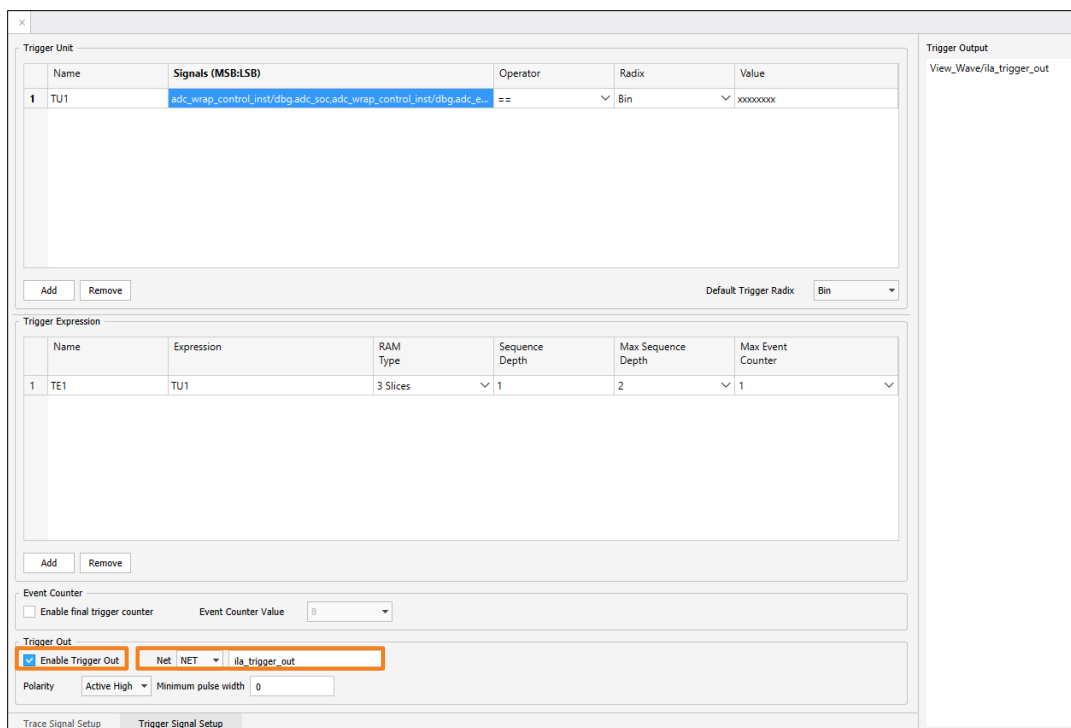
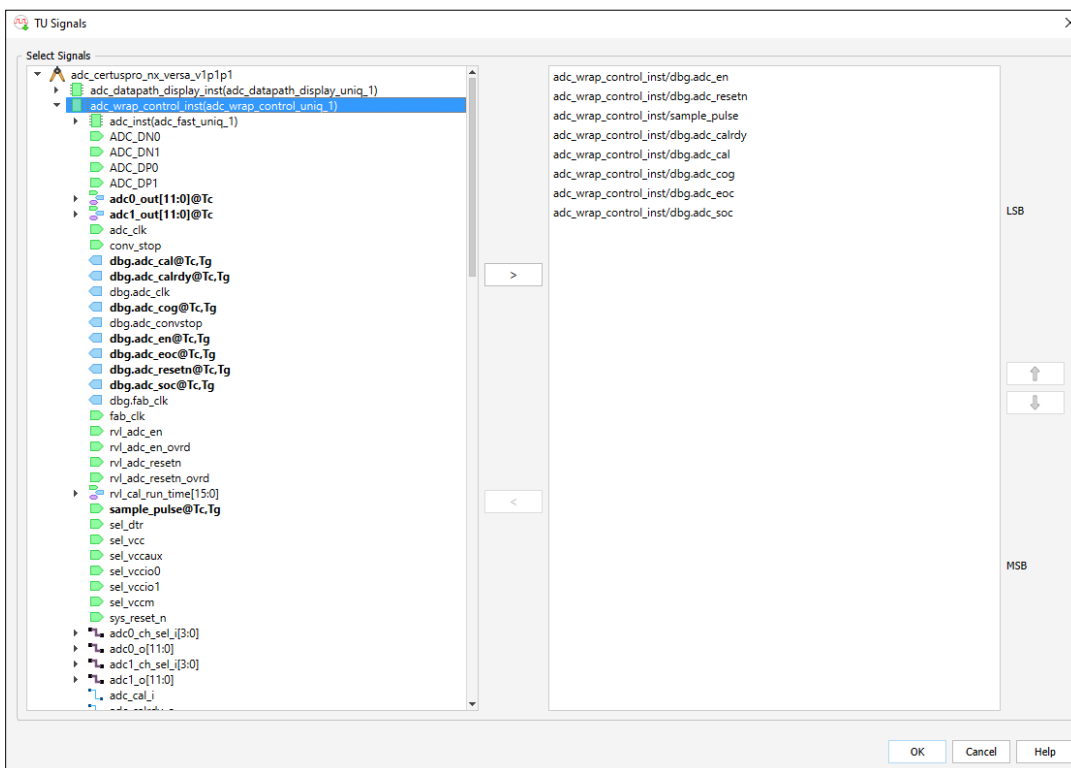

Figure 7.13. Add a Trigger Unit
Figure 7.14. Add Signals to the Trigger Unit
7. Add a new trigger unit and add signals to it by dragging the desired signals from the design tree pane to the **Signals (MSB:LSB)** box in the Trigger Unit section (Figure 7.13). If you double click on the names of the signals, as highlighted in Figure 7.13, the **TU Signals** dialog box opens (Figure 7.14).